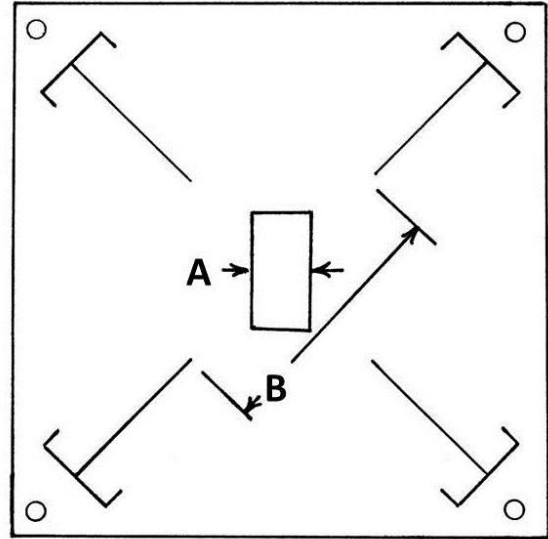

FIG. 1
1. (Fig. 1) When installing the Power Pivot on davits by others,, the width of the mast (A) and the diagonal distance between any upright braces (B) must be identified.